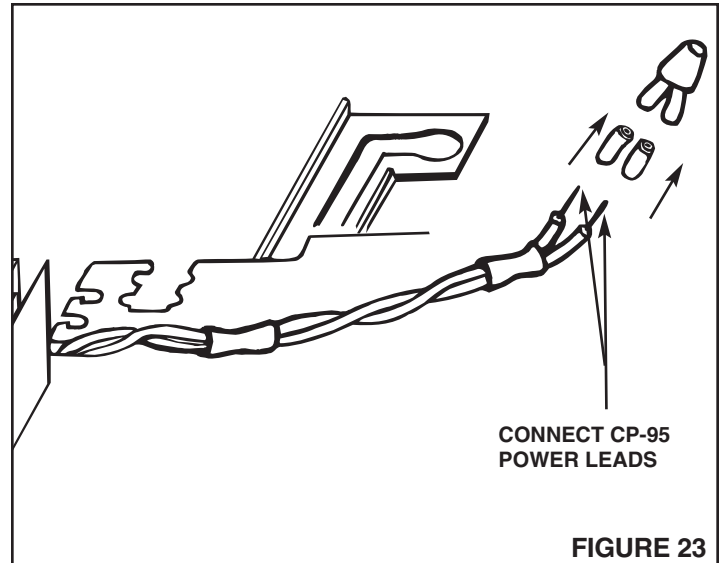

FIGURE 23
1. Refer to **Figure 23**. Cut the protective sleeving from the end of the BLK/WHT CP-95 power supply leads.